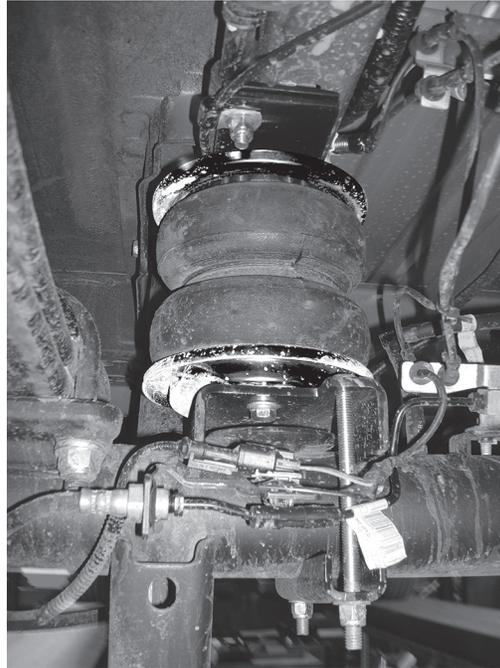

fig. 26
2. Figure 26 shows the rear view of the driver's (left) side completed installation.